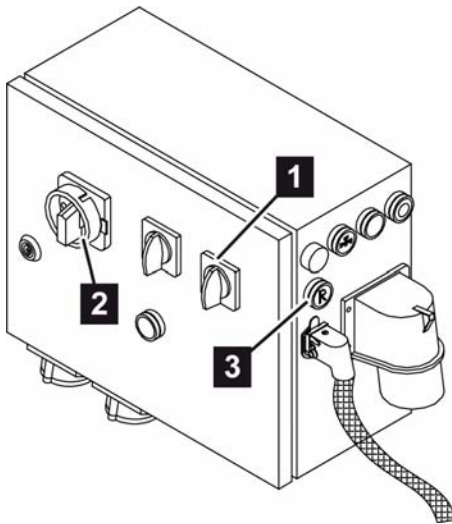

Fig. 59: Switching off cellular wheel motor
1. Switch off the cellular wheel motor (Fig. 59/1).
2. Let the pump motor run backwards briefly, to do this throw over the main reverse switch (Fig. 59/2) (indicator light "Change sense of rotation" will be illuminated).
4. Press the blue pushbutton (Fig. 59/3) "Pump motor reverse" (water supply will be interrupted automatically), until the pressure on the mortar pressure manometer drops to 0.